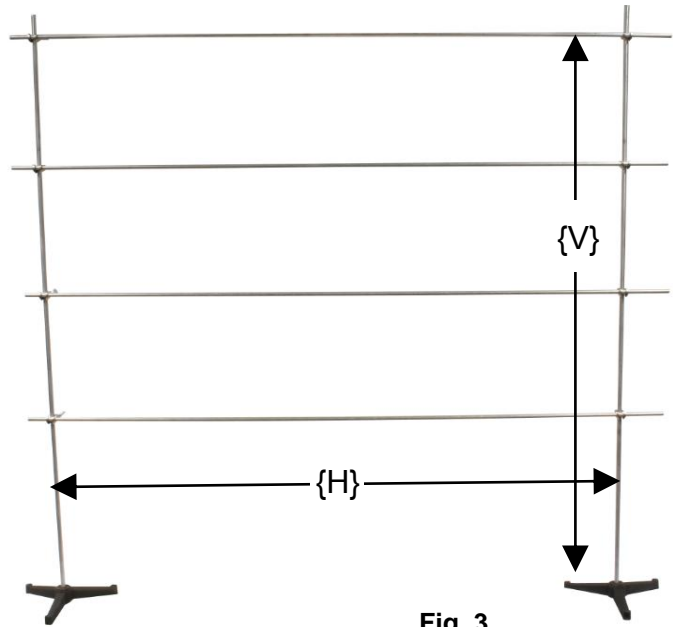

Fig. 3
Step 2: (see Fig. 3) Set up horizontal bars for attachment of the array microphones using Grid Bars (B) and make appropriate horizontal lengths {H} using the level (F) included in the kit. The vertical height {V} and spacing of each horizontal grid bar show be adjusted with a scale as required for the application.